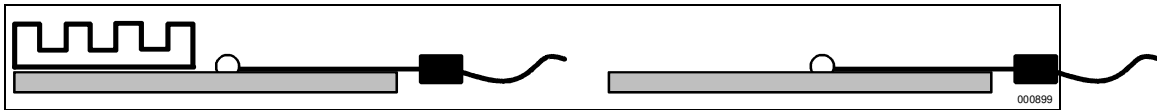

Figure 20. Technique for Measuring T_{PLATE} with 0° Angle Attachment
To ensure functional and reliable processor operation, the processor's thermal plate temperature (T_{PLATE}) must be maintained at or below the maximum T_{PLATE} and at or above the minimum T_{PLATE} specified in Table 47 and 48. Power from the processor core is transferred to the thermal plate at 2 locations. Figure 20 and 21 shows the locations for T_{PLATE} measurement directly above these transfer locations. Thermocouples are used to measure T_{PLATE} and special care is required to ensure an accurate temperature measurement. Before taking any temperature measurements, the thermocouples must be calibrated. When measuring the temperature of a surface, errors can be introduced in the measurement if not handled properly. Such measurement errors can be due to a poor thermal contact between the thermocouple junction and the measured surface, conduction through thermocouple leads, heat loss by radiation and convection, or by contact between the thermocouple cement and the heatsink base. To minimize these errors, the following approach is recommended:
- A thermocouple should be attached at a 0° angle if no heatsink is attached to the thermal plate. If a heatsink is attached to the thermal plate but the heatsink does not cover the location specified for T_{PLATE} measurement, the thermocouple should be attached at a 0° angle (refer to Figure 20).